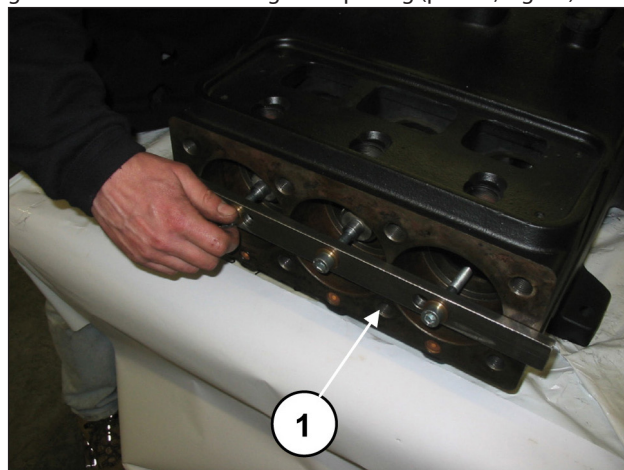
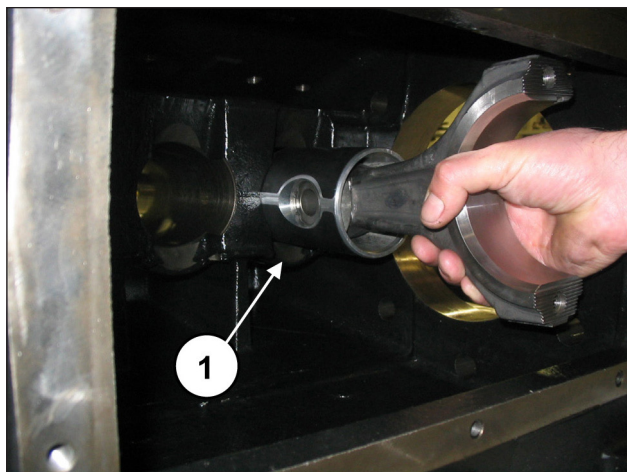
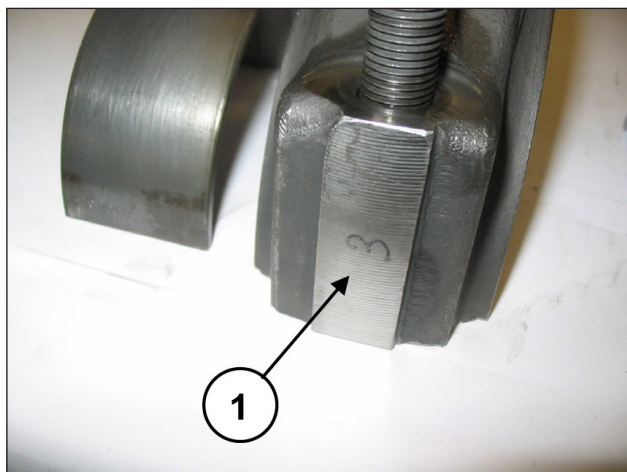

Fig. 32
Fig. 33
Fig. 34
Unscrew the screws with tool code 27566200 to unlock the conrods (pos. ①, Fig. 32) and then extract the conrod-piston guide units from the casing rear opening (pos. ①, Fig. 33).
Couple the half-conrods to the previously disassembled caps, referring to the numbering (pos. ①, Fig. 34).
Separate the caps from the half-conrods. Proper coupling can be verified by the numbering on the side (pos. ①, Fig. 34). After having checked casing cleaning, proceed with assembly of the half conrod-piston guide unit inside casing rods (pos. ①, Fig. 33).
Block the three units with the use of special tool code 27566200 (pos. ①, Fig. 32).
Remove the tool for blocking the conrods code 27566200 (pos. ①, Fig. 32).